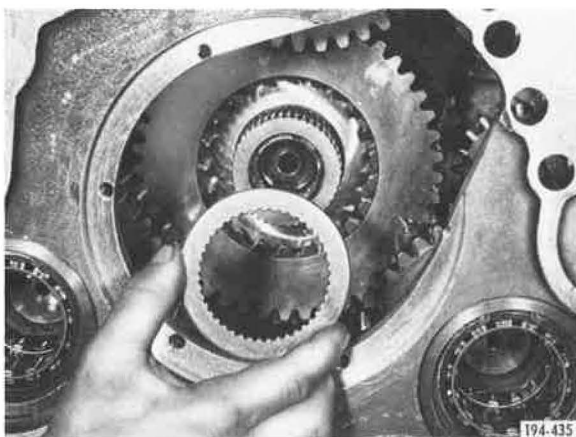

Figure 338. Installing Thrust Washer
26. Through rear case front opening, install Lo/Hi range gear front thrust washer, with bronze side rearward, against gear. See Figure 338.